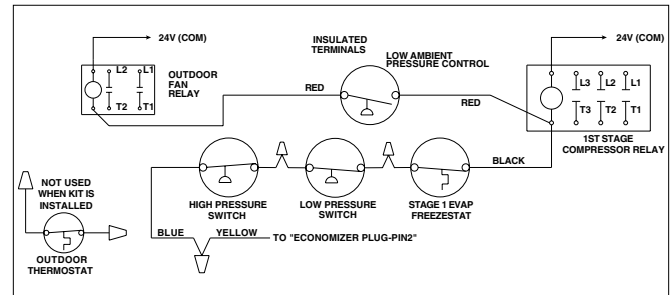

Figure 2b. R4GM-090* Low Ambient Wiring
- with “Blue” wire from Step 1. Secure using closed end connector provided (See Figure 2b).